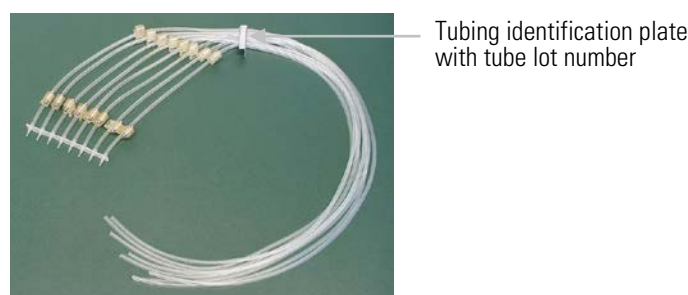

Figure 5-28. New tubing set with the tip band attached
1. First place the new tubing set onto the laboratory bench with the tip band attached (Figure 5-28). Ensure that you save the eight calibration screws and the PEEK tubing weight from the previous tubing set.